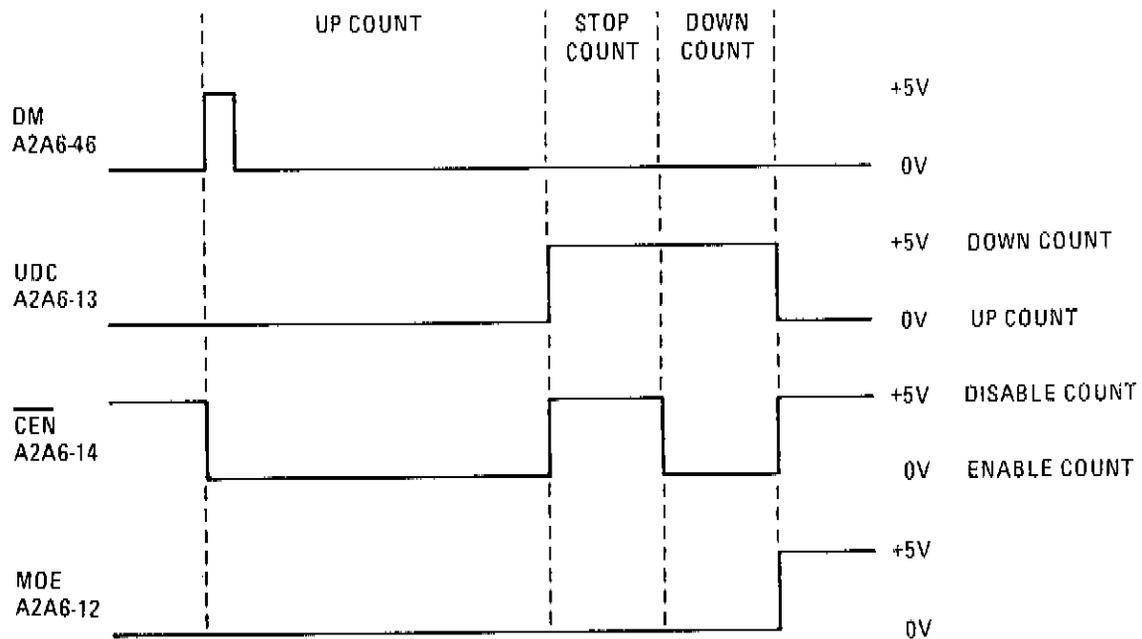

Figure C3-15. FREQ COUNTER Gating Pulses Timing Diagram
Perform procedure in Figure C3-15 for checking Data Marker (DM) output form A2A6 Marker Assembly.